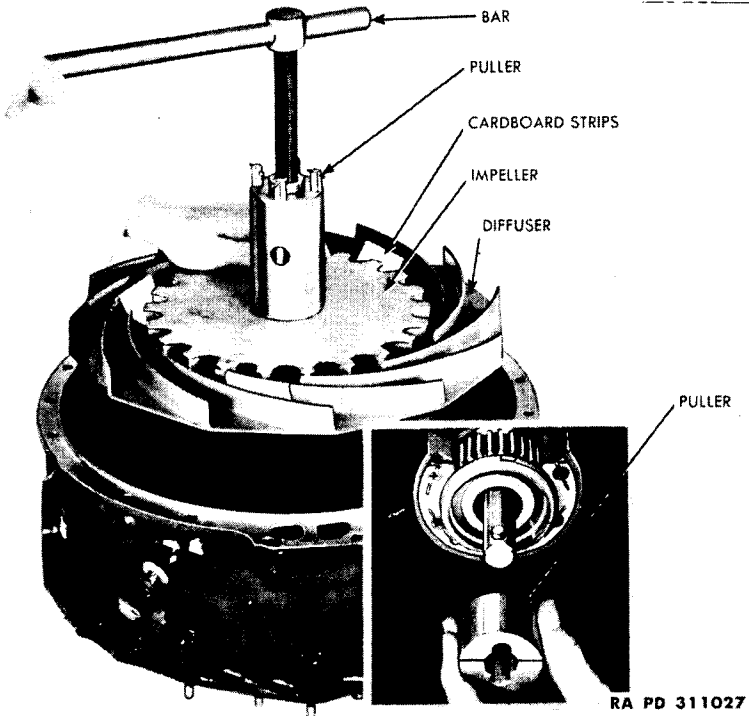
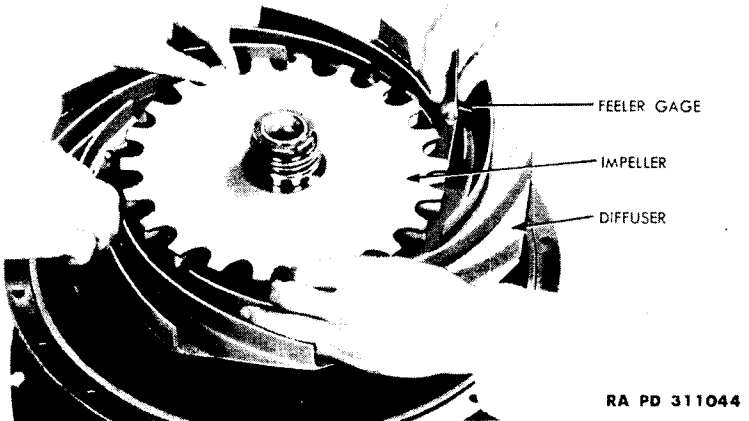

Figure 55 — Installing Impeller, Using Puller 5A2263 and Adapter 5A2310
Figure 56 — Checking Impeller Clearance
(2) **INSTALL IMPELLER.** Press impeller on impeller shaft as far as possible by hand. Complete installation of impeller as follows using puller (5A2263) and adapter (5A2310) (fig. 55). Tighten four screws passing through body of installing tool into tapped holes of impeller. Install adapter on end of rod which passes through impeller shaft so that pilot on adapter is centered in spherical thrust ring. Lock adapter in place with locking pin. The adapter tool should be seating on impeller shaft retainer, and locking pin should be seating in semi-circular groove in adapter. Press impeller on shaft by turning screw until impeller hub is bottomed on rear impeller shaft oil sleeve. Remove installing tools. Measure clearance between impeller blades and diffuser plate when impeller is in extreme rear position. Obtain this measurement, using a feeler gage, checking at several points around impeller circumference (fig. 56) (par. 22). If this clearance is too small, remove impeller, impeller shaft retainer, and impeller shaft. Grind required amount from bronze washer which is installed ahead